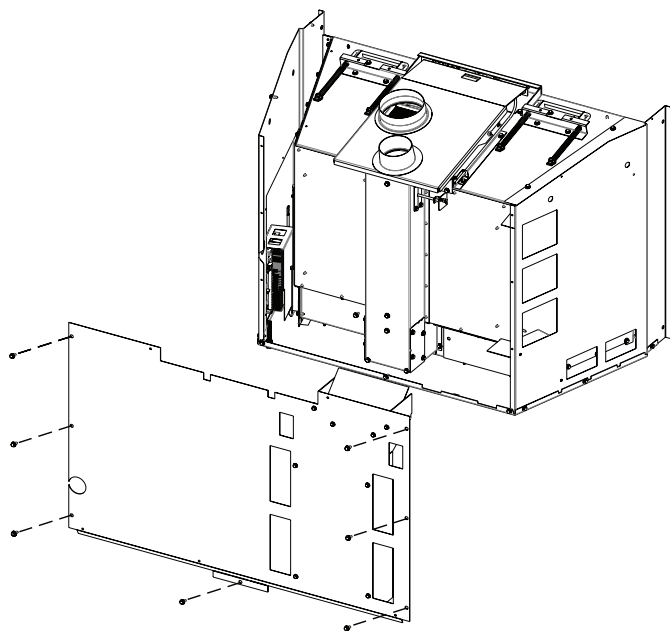

Figure 13
16. Install new rear assembly using 7 screws. **See Figure 13.**